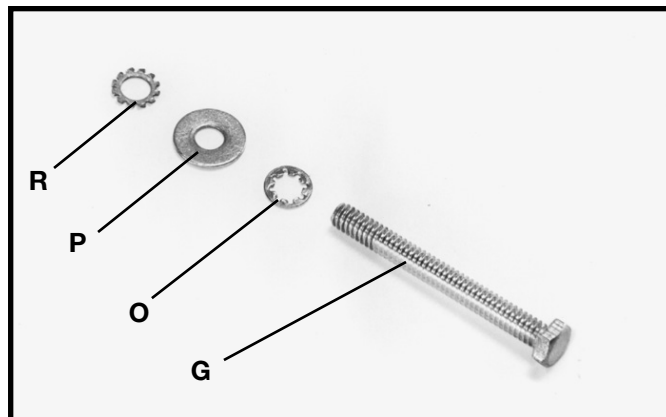

Fig. 10
4. Locate the 1/4-20 x 2-1/4" hex head screw (G) Fig. 10, and assemble the 1/4" internal tooth lockwasher (O), 1/4" flat washer (P) and 1/4" external tooth lockwasher (R) onto screw (G).